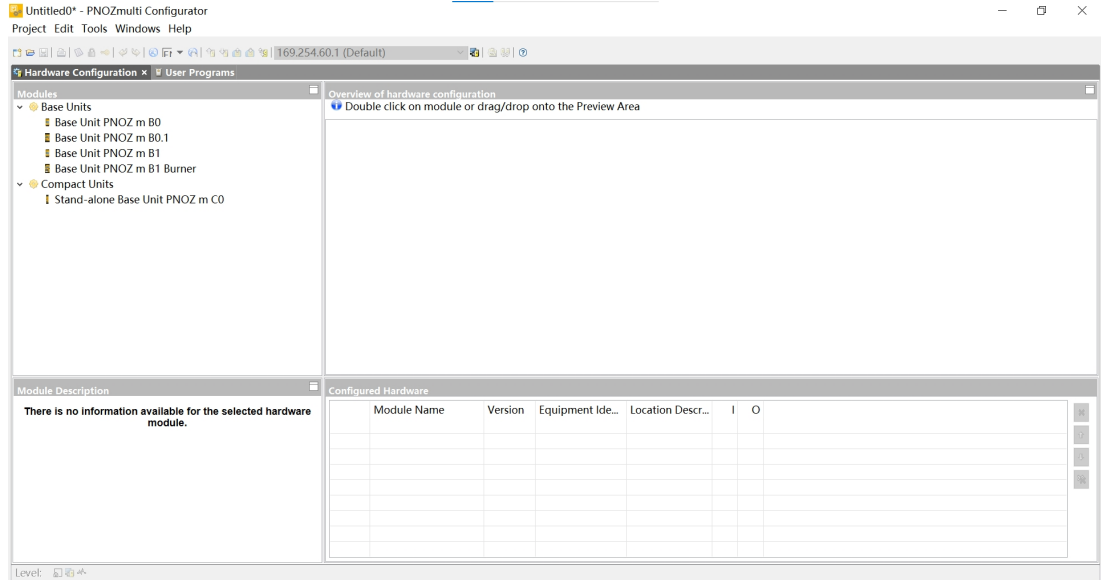

Figure 14-19 Default interface of PNOZmulti Configurator
- b. Open PNOZmulti Configurator. The New Project window displays by default, as shown in “Figure 14-19 Default interface of PNOZmulti Configurator” on page 644.